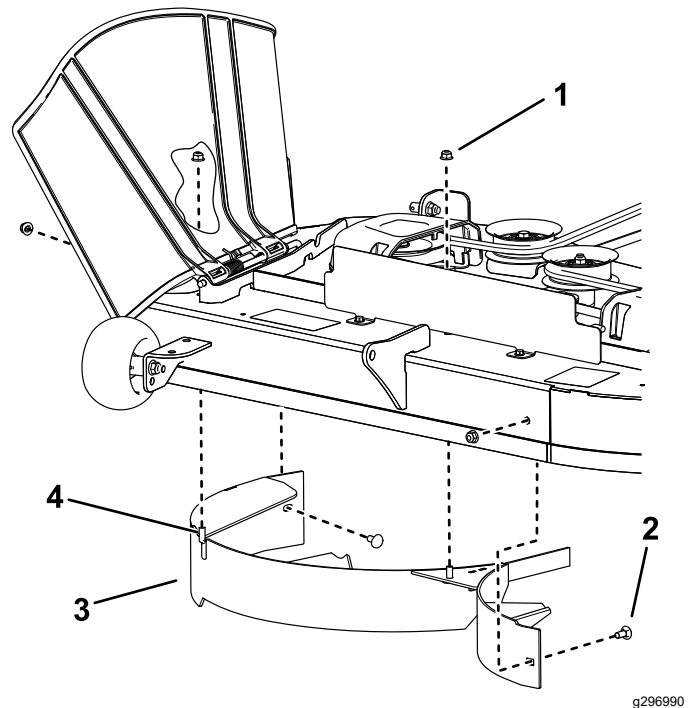

Figure 12
4. Remove the 2 locknuts (5/16 inch) from the welded posts of the baffle (Figure 12).
1. Locknut—5/16 inch (4)
2. Carriage bolt—5/16 x 3/4 inch (2)
4. Welded post (2)
5. Remove the 2 carriage bolts and 2 locknuts securing the baffle to the deck and remove the baffle (Figure 12)
6. Locate the 2 bolts in loose parts and use the existing locknuts to install these fasteners into the holes used for the welded posts (Figure 12) to prevent flying debris.